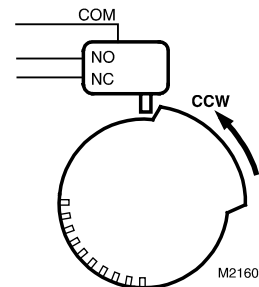
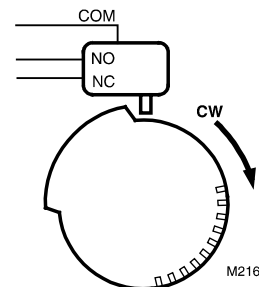

Fig. 12. Switching configuration for CCW rotation (top view).
Fig. 13. Switching configuration for CW rotation (top view).
1. Determine desired switching action (for example, if switch energization is to occur during CW or CCW rotation). With switch cam as shown in Fig. 12, the normally closed contact opens in CCW rotation. The normally open contact closes. Conversely, with the switch cam as shown in Fig. 13, the normally closed contact opens during CW rotation and the normally open contact closes.